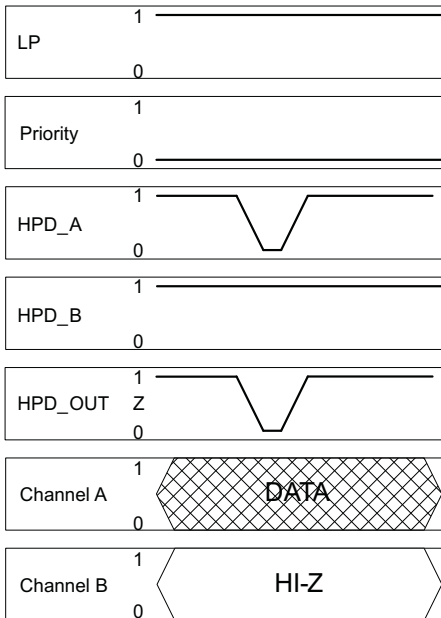
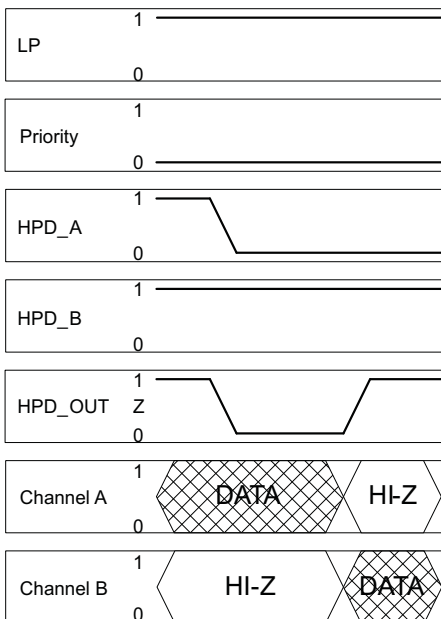

Figure 41.
Figure 42.
- Case two: In this case both HPD inputs are initially HIGH and the selected port has been determined by the state of the priority pin. The HPD output logic state follows the state of the selected HPD input. If the HPD input pulses LOW, the HPD output to the source also pulses LOW for the same duration of time, again with a slight delay (see Figure 41). If the duration of the LOW pulse exceeds  $t_{T2(HPD)}$ , the device assumes that an unplug event has occurred and the other port is selected (see Figure 42). The case in